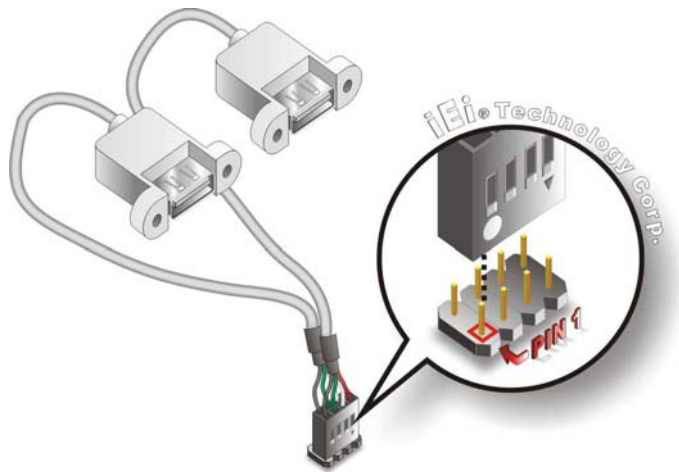

Figure 4-14: Dual USB Cable Connection
Step 3: Insert the cable connectors. Once the cable connectors are properly aligned with the USB connectors on the PM-945GSE-N270, connect the cable connectors to the on-board connectors. See **Figure 4-14**.